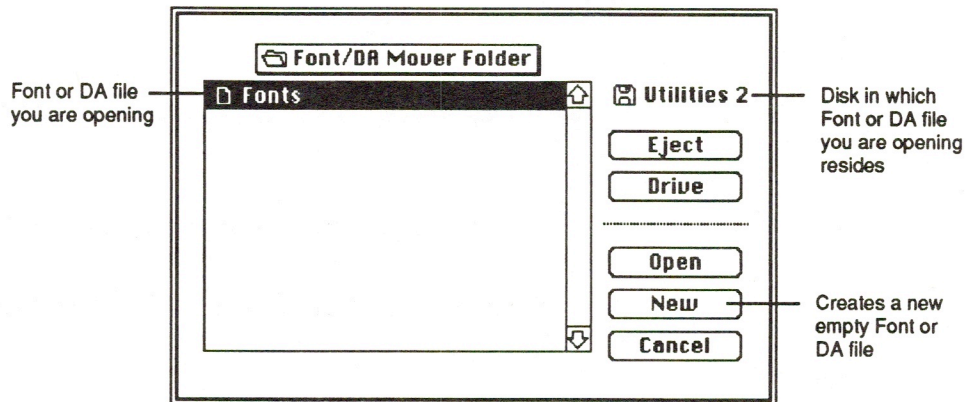

Figure 49. Directory dialog box for locating system, font, or desk accessory files
You will see a directory dialog box of the Font/DA Mover folder on the Utility disk, as shown in Figure 49.
5. Click Open or double-click the highlighted file in the directory dialog box as shown in Figure 49 to display a list of fonts on the Utilities disk.